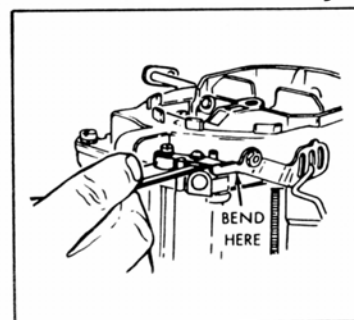

Fig. 3
c. Bowl Vent Valve. (See figure 3.) Make sure valve seats when throttle valves are opened and spring does not bind against guide pins. Hold choke valve open and throttle valves in normal idle position. With rubber valve hanging free, the opening between valve and opening in air horn should be $\frac{1}{16}$ inch. To adjust, bend pump lever at location shown.